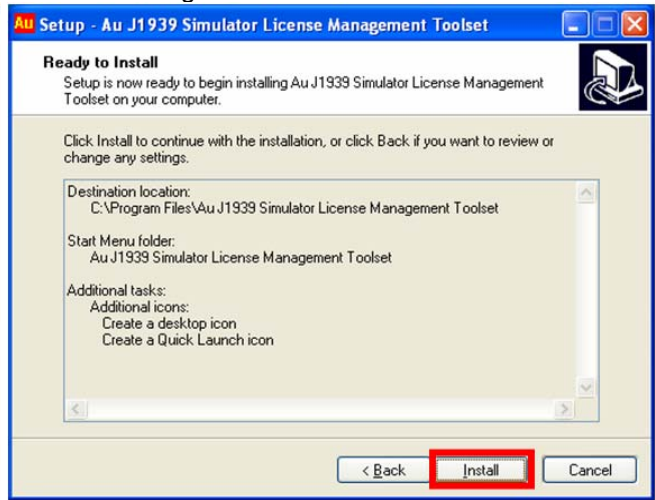

Figure C-7
7. "Ready to Install" window shows up, click "Install", as shown in Figure C-7.